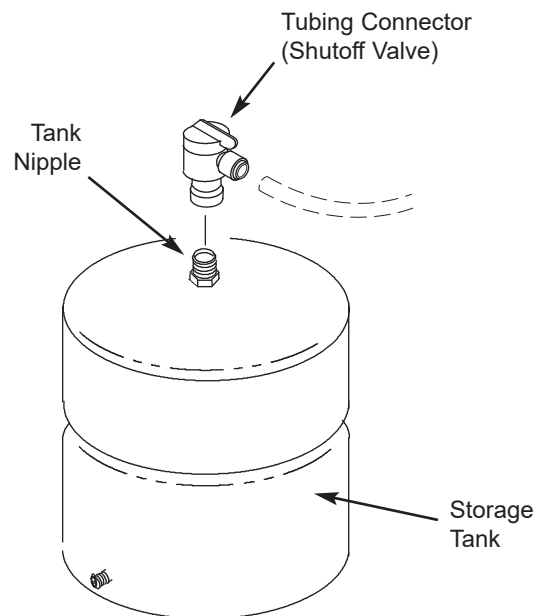

FIG. 13
1. Apply thread sealing tape (2 wraps clockwise) to the threads on the nipple at the top of the tank. See Fig 13.
2. Locate the tubing connector (shutoff valve). See Fig 13. Tighten the tubing connector onto the tank nipple 7-8 full turns, being careful not to cross thread or overtighten.
5. Connect yellow tubing to tank connector. See Figs. 13 and 23.